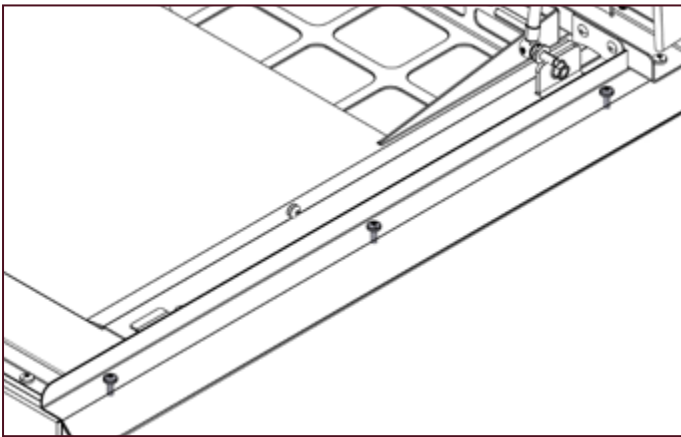

Figure 10-1: Removing the three screws
3. Undo and remove the three screws along the top edge of the right hand side panel. Refer to Figure 10-1. Keep these screws for re-fitting later.